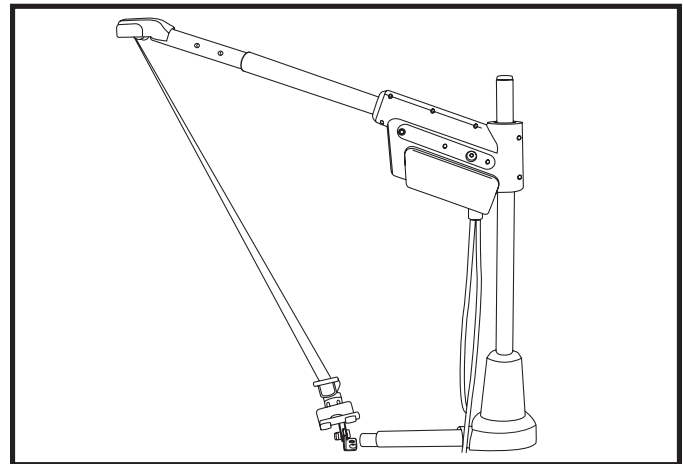

Figure 17. Securing The Boom Arm
10. If installed in a van, disconnect the hook from the docking device and attach it to the T-bar on the base extension. (This prevents the boom arm from swinging freely while the automobile is in motion.) Operate the lift in the upward direction until the strap is snug. **See figure 17.**